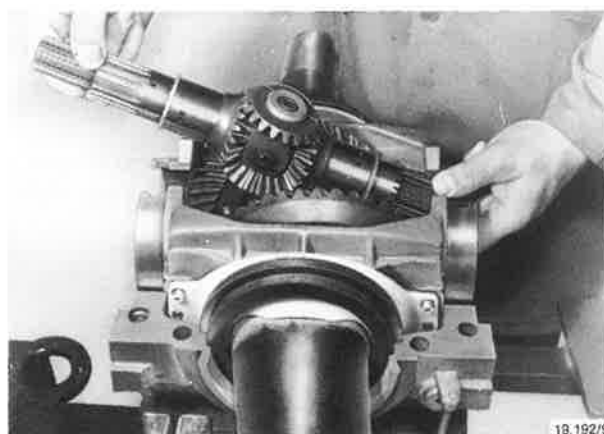

Fig. 15
- 16 Insert premounted differential gear unit with adjusting shims as seen in fig. 15. Recess for snap ring pointing forwards.